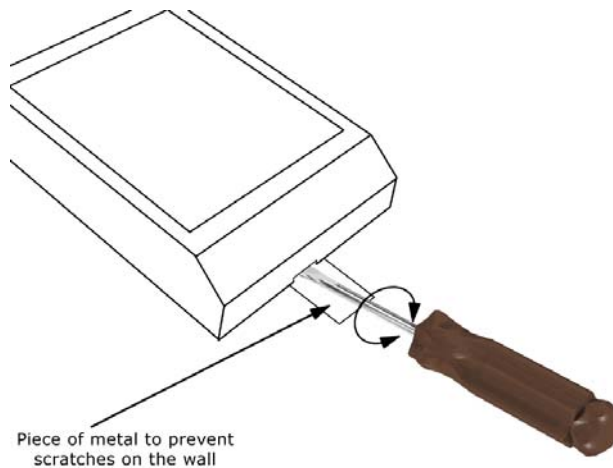

FIGURE 1: Open the Cover (only DC-1023)
2. DC-1023 only: Snap open the reader's front cover by inserting a wide screwdriver blade into the slot at the bottom edge of the cover, then twisting the blade gently (see Figure 1).